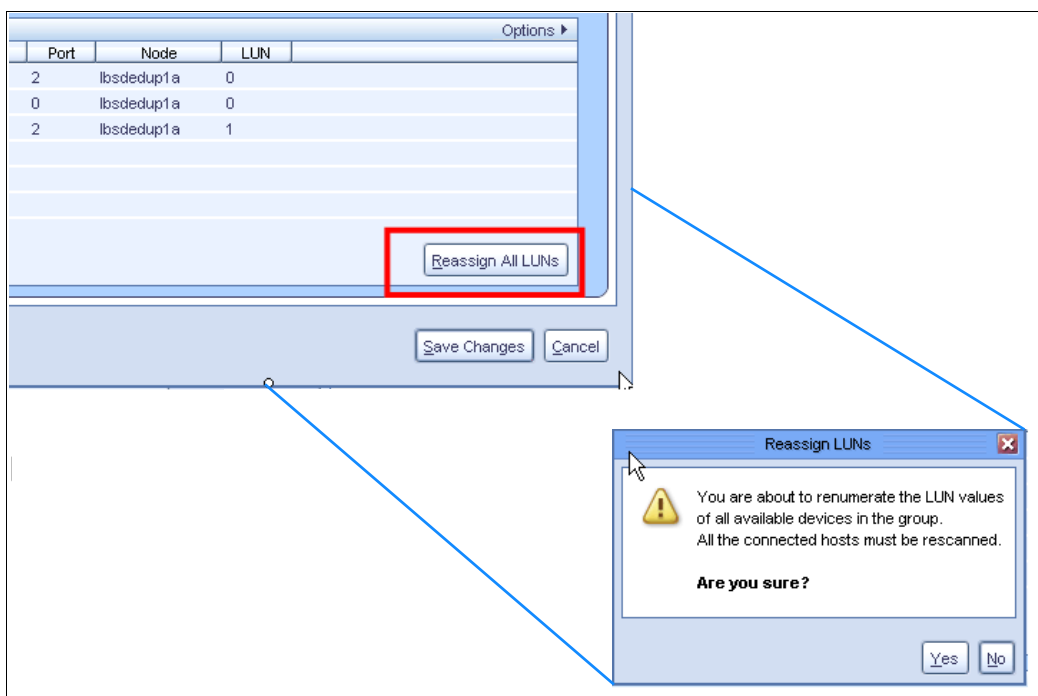

Figure 6-8 Reassigning LUNs
3. The system displays the Reassign LUNs window, which has the following message (as shown in Figure 6-8):